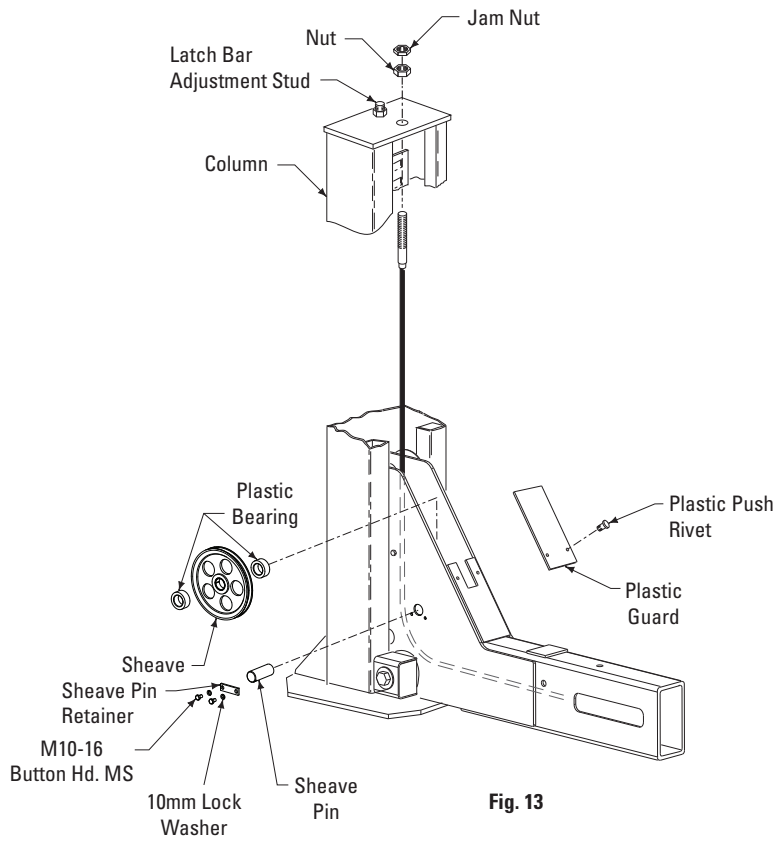

Fig. 13
10. **Front Sheave Install:** Install yoke end sheaves and plastic bearings. A plastic bearing is placed between each side of the sheave and the sheave spacers, Fig. 13, also refer to inset in Fig. 9. Retain sheave pin with (2) M10-16 bolts and sheave pin retainer. Be sure cable is located in the sheave groove.
11. **Cable Install:** Attach each cable to column top plate with nut, jam nut, and washer, Fig. 13. Install plastic sheave guard on each yoke end.